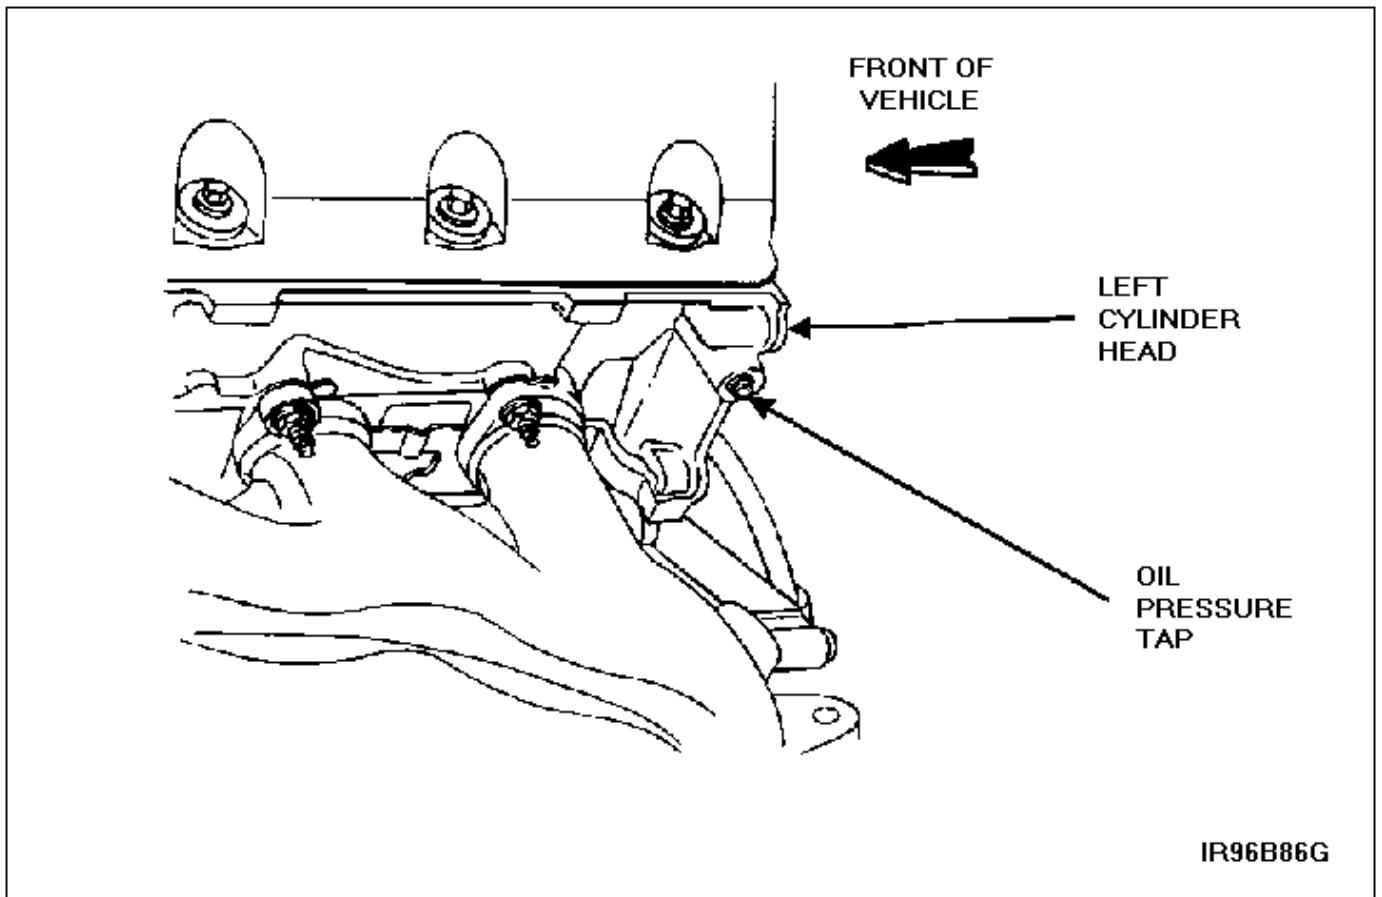

Figure 6
4. On the left cylinder head, the oil pressure tap is located exactly opposite where the tap was on the right head. Remove the plug and connect the oil pressure gauge. See Figure 6.